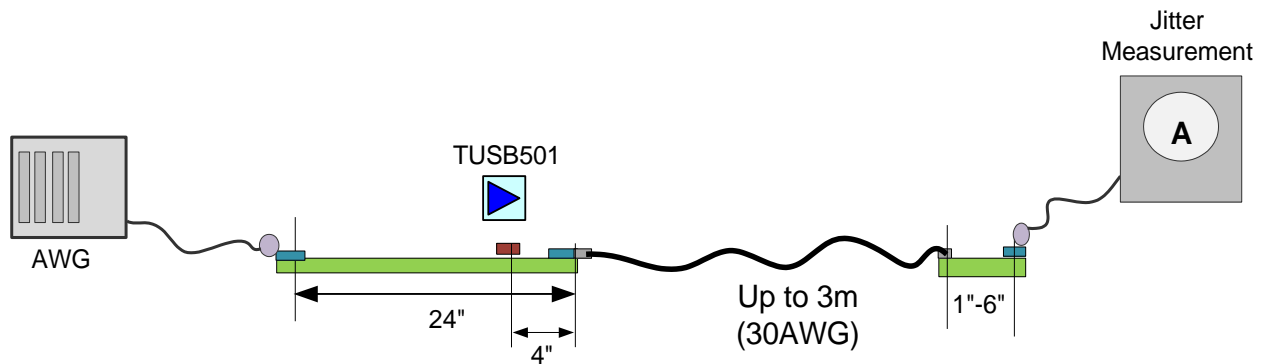

Figure 1. Jitter Measurement Setup
- (1) Includes RJ at 10-12.
- (2) Measured at the ends of reference channel in Figure 1 with K28.5 pattern, VID = 1000 mVpp, 5 Gbps, -3.5 dB de-emphasis from source.
- (3) UI = 200 ps.
- (4) RJ calculated as 14.069 times the RMS random jitter for 10-12 BER.